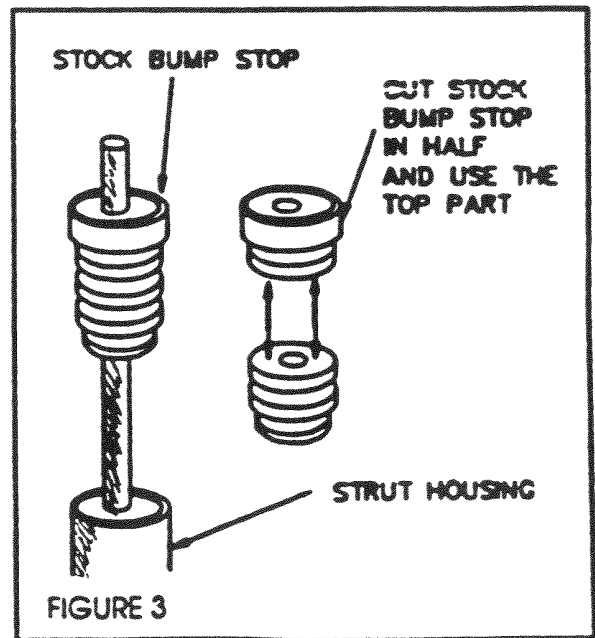

FIGURE 3
7. On strut equipped vehicles; the bump stop (if so equipped) should be trimmed at least in half for added suspension travel. On A-arm (A-frame) type vehicle trimming the bump stops (if so equipped) will increase wheel travel. Some Suspension Techniques Sport spring sets include replacement bump stops. The bump stop (modified or replacement) **MUST** be installed in All vehicles or severe damage to the suspension components will result. (See figure 3)